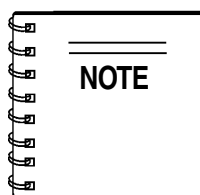

Figure 72. Auto-Manual Off/Reset Switch
4. Place the Auto-Manual/Off/Reset switch (Figure 72) to the **OFF/Reset** position.